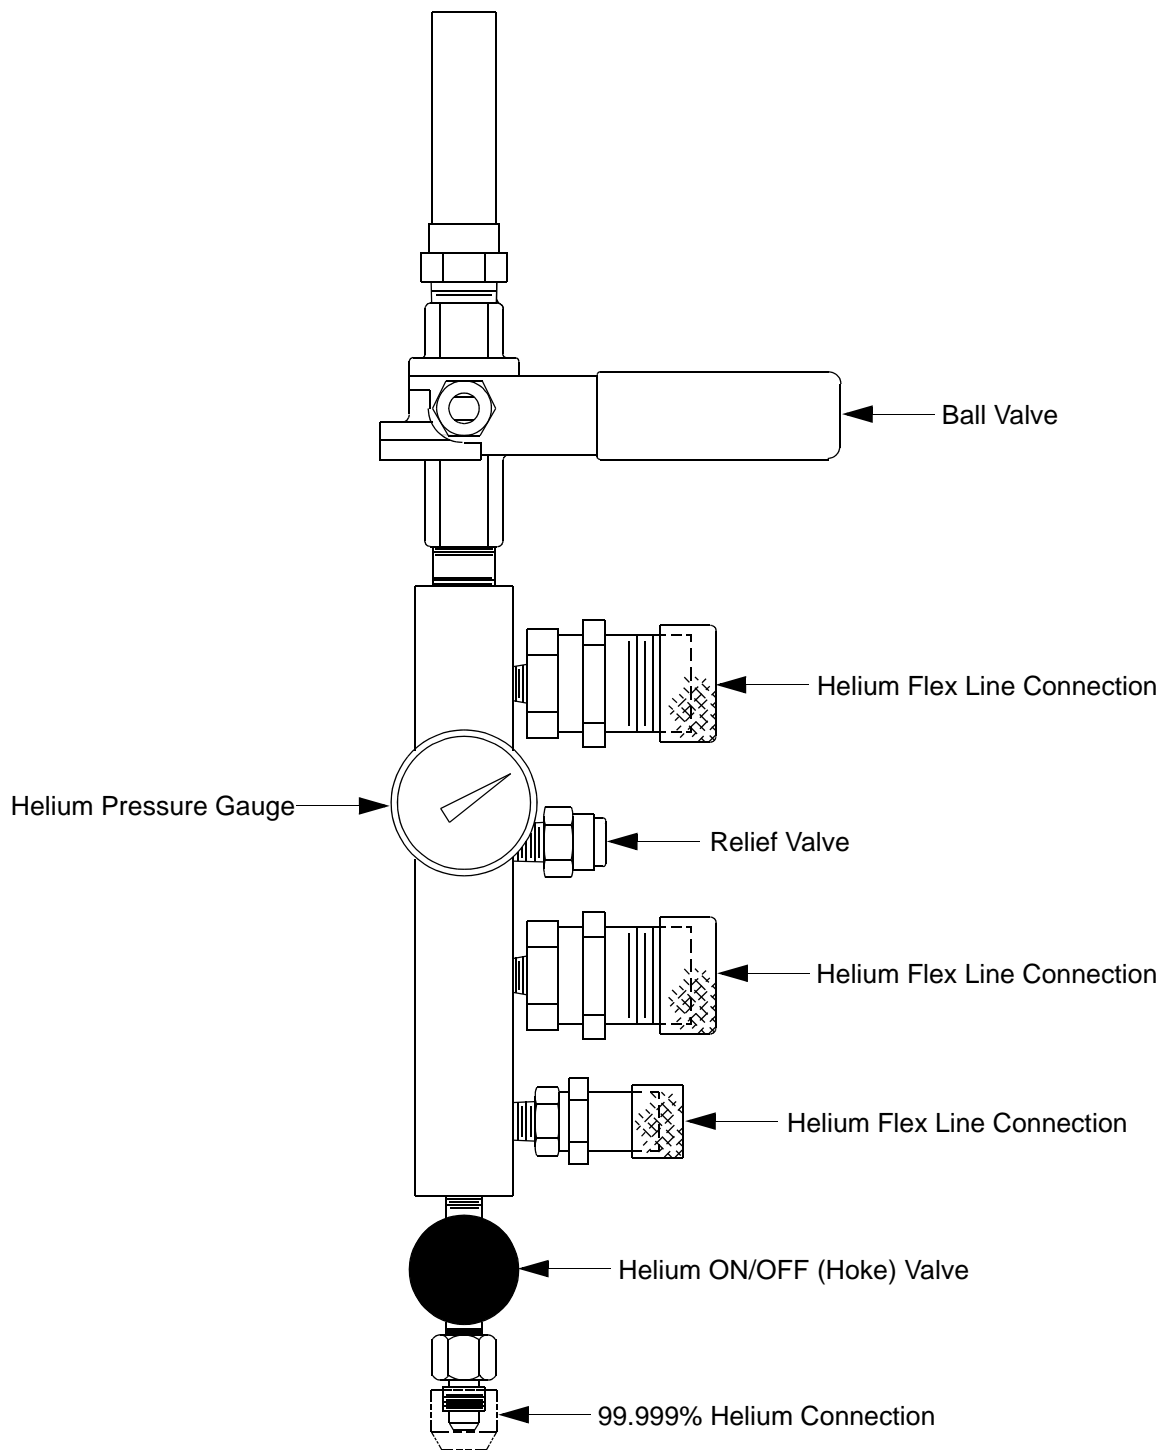

Figure 4-3: Maintenance Manifold Part Number 8032051G001
- c. Loosely connect the charge line to the closed Hoke valve on the maintenance manifold. Refer to Figure 4-3.